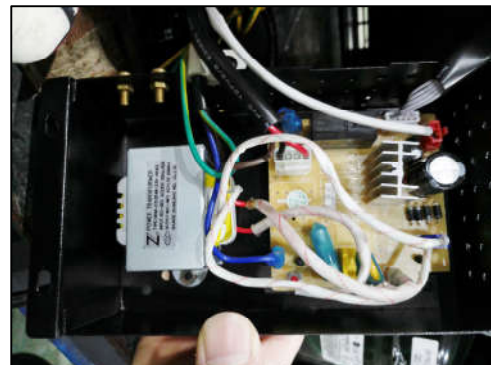

Figure 20
2. The power board & transformer are like below. (figure 20)